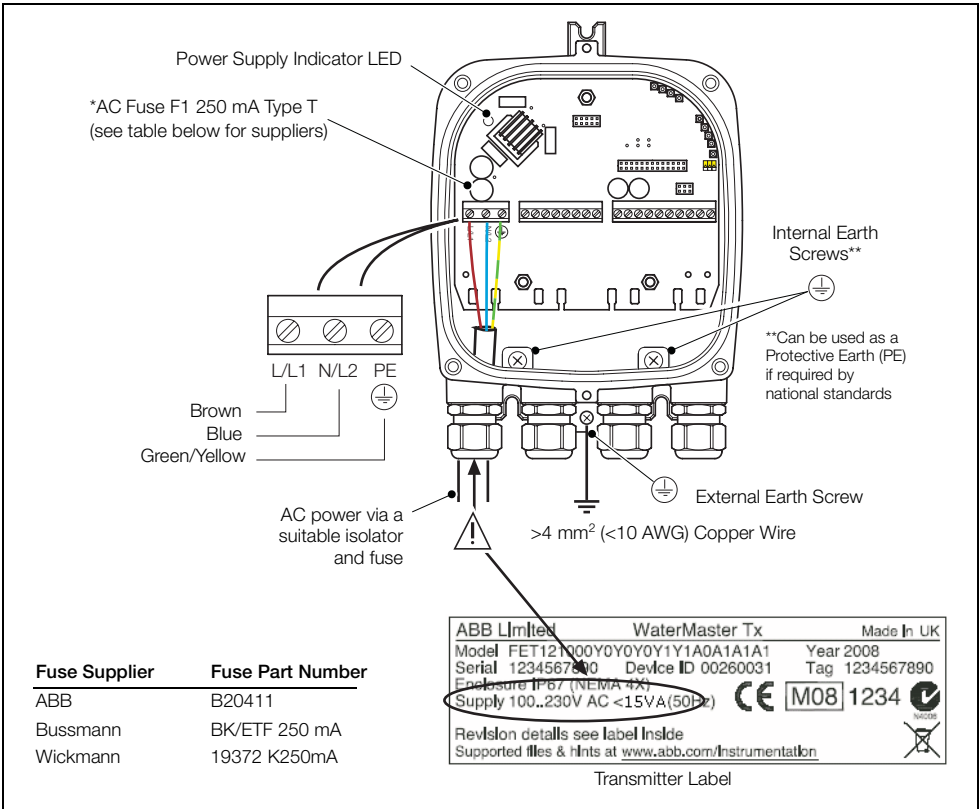

Fig. 4.17 AC Power Supply Connections
- Replace fuses with the correct part, see Fig 4.17 (AC power) and 4.18, page 29 (DC power).